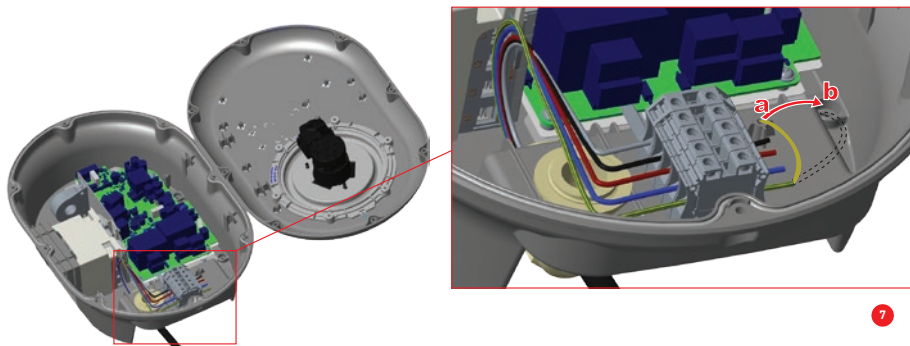

Figure-6
7. In case you mount the charging station to conductive metal surface, you can make ground connection via "right-bottom" screw using Earth extension cable as shown in figure-6. To ensure the grounding, you need to change the grounding cable position from "a" to "b" as shown in figure-6. Follow the instructions below: